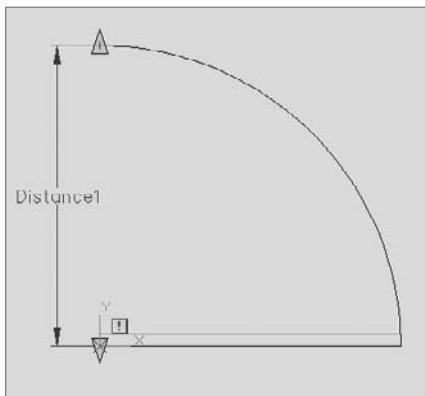

FIGURE 9.43 The Linear parameter is placed.
3. Move the cursor to position the dimension symbol a little to the left of the door block, and then click to place it (see Figure 9.43).